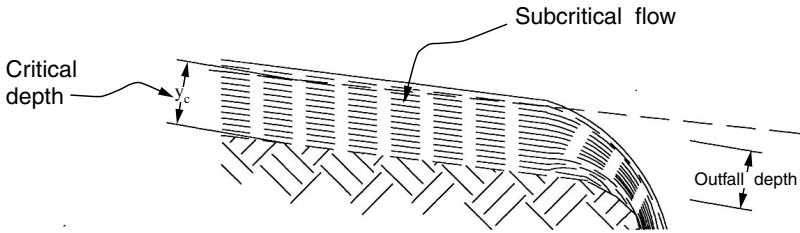

FIGURE F-6 Free outfall.
**Free outfall** A type of outfall structure without a gate. Also, two of three types of discharge points or boundary conditions used in the Stormwater Management Model (SWMM), corresponding to backwater-free discharges to (1) a gravity element (manhole) and (2) a pump station wetwell. (The third type is a pressure discharge.) *See* Figure F-6.